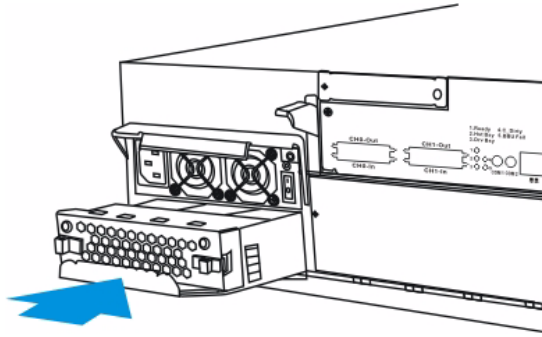

Fig. 6.18 Installing the new Cooling Module
2. Install the new cooling module by aligning the module with the cooling module slot on the lower section of the PSU module and gently sliding it in. The latches will hold the module in place. (See *Figure 6.18*)